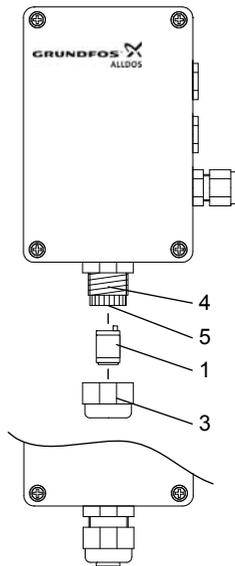

Fig. 5 Fitting the sensor in the sensor interface
4. Unscrew the union nut (3) at the sensor support (4). See fig. 5.
5. Check that the sealing insert (5) is fitted correctly.
6. Plug the sensor element (1) into the support (4).
7. Tighten the union nut (3) by hand.